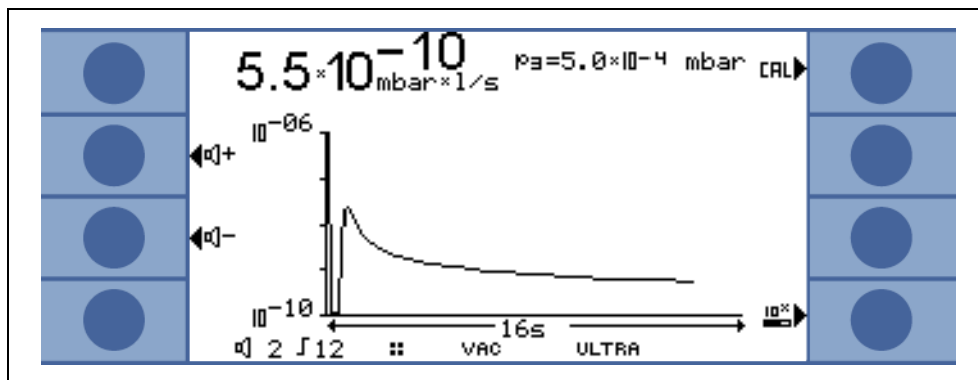

Fig. 5-2: Display, trend mode
- Trend mode (leak rate versus time) Fig. 5-2
In trend mode the leak rates are displayed over time Fig. 5-2. In addition the actual leak rate and inlet pressure also are displayed digitally. The time axis can be defined in the menu (See Chapter 6.2.3). The intensity axis (y-axis) is defined the same way as the bargraph (Please refer to Chapter 6.2.1 ff).